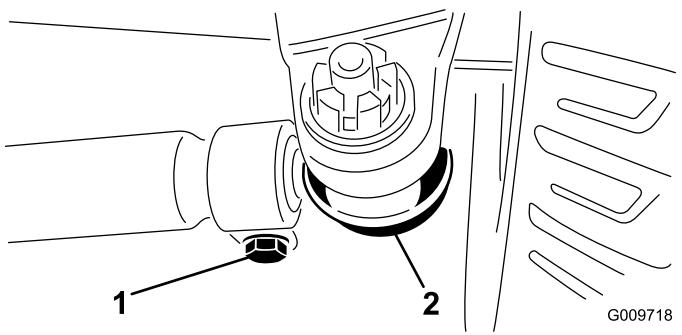

Figure 54
4. Loosen the clamps at both ends of the tie rods (Figure 54).
2. To adjust, remove the cotter pin and nut from either tie-rod ball joint (Figure 54).